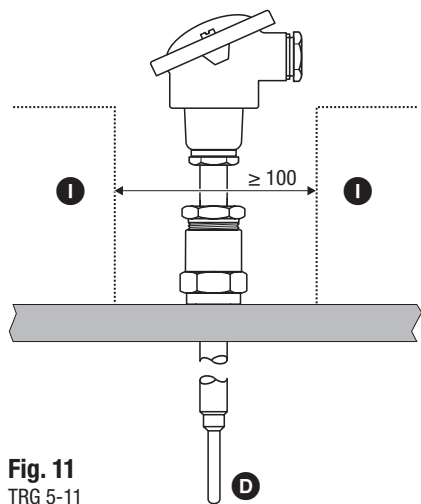
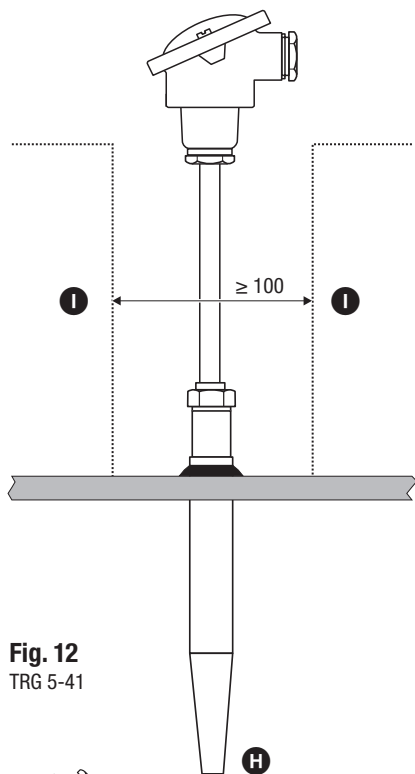

Fig. 11
Fig. 12
- Install the temperature sensor such that its measuring tip **Ⓓ/Ⓗ** is permanently immersed in the fluid, **Fig. 11, Fig. 12**.
- Do not completely insulate the temperature sensor. See Examples of Installation, **Fig. 11, Fig. 12**.